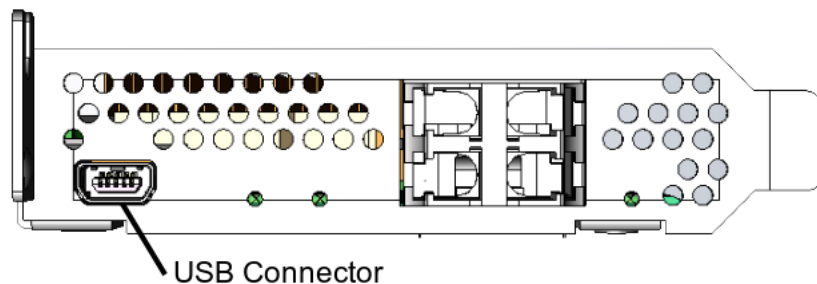

Figure 4-2: Bracket showing the USB Connector
5. Optional: Connect the mini-to-A USB cable, as shown in Figure 4-2. Connect the other end to the host PC in an available USB port.
2. Connect the USB mini end of the cable to the USB port on the TILEncore-Gx card, as shown in Figure 4-2.